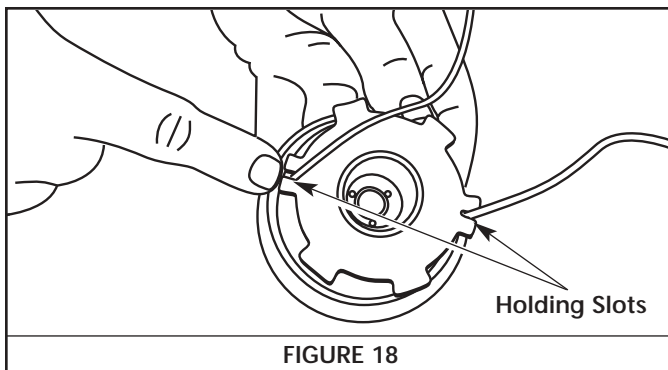

FIGURE 18
- Insert the ends of the line into the two holding slots. See Figure 18.